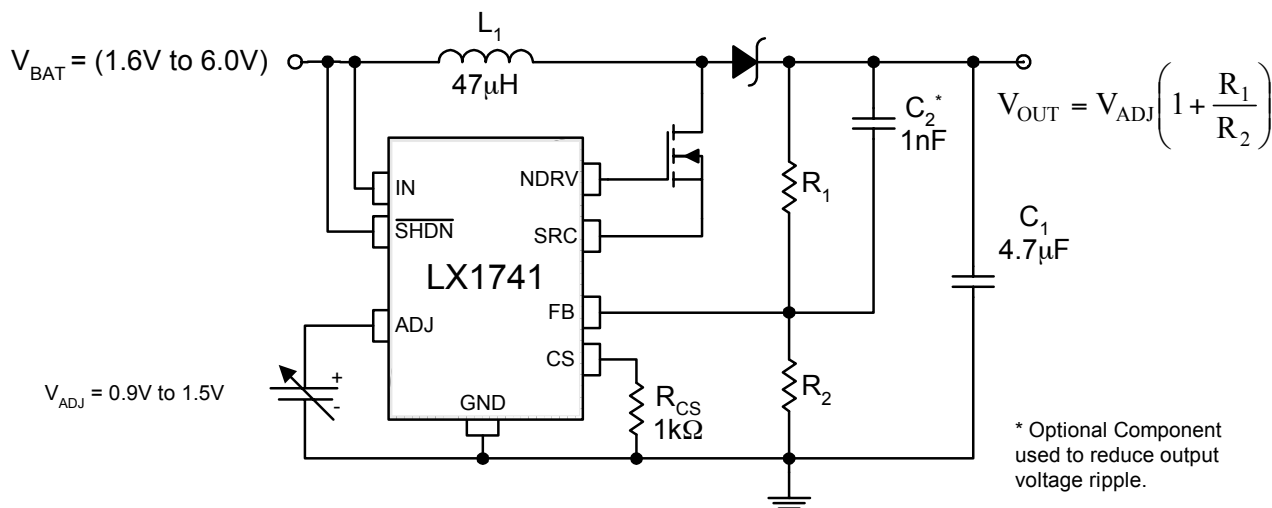

Figure 3 – Dynamic Output Voltage Operation Via Analog Voltage Input
1. When using a DC source to adjust V_{OUT} , the recommended V_{ADJ} (range) is from 0.9V to 1.50V: see figure 3 and 8.